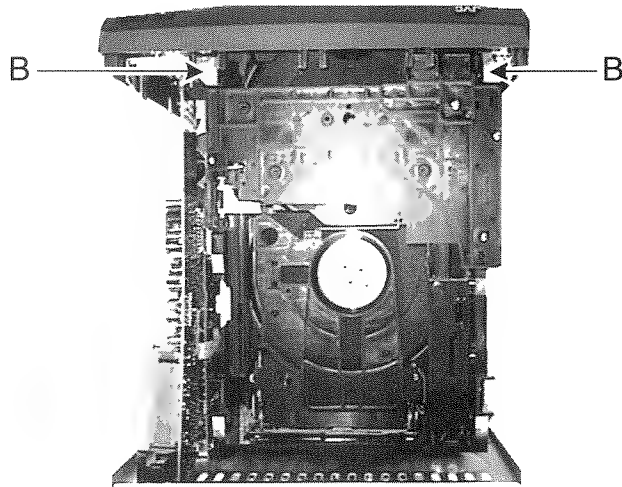
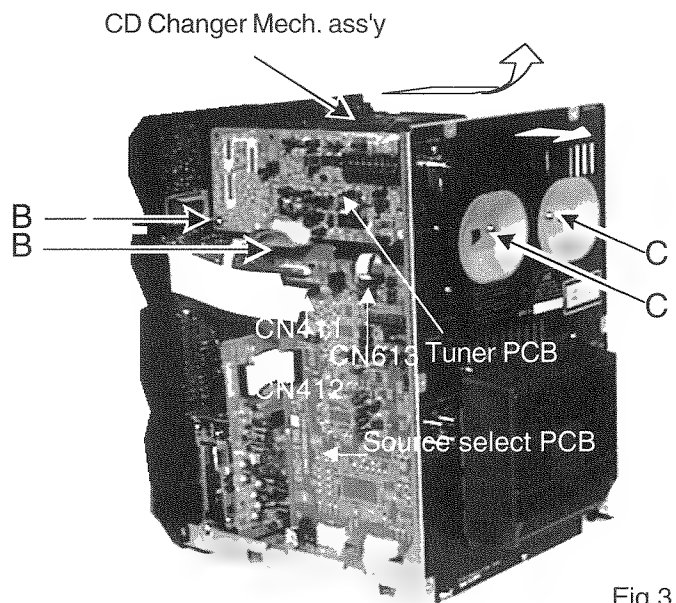

Fig.2
Fig.3
- 1.Remove 2 screws(B)fastening up side (Fig. 2).
- 3.Remove 2 screws(B) holding the PCB's.
- 5.Remove the changer mechanism ass'y(Fig.3).